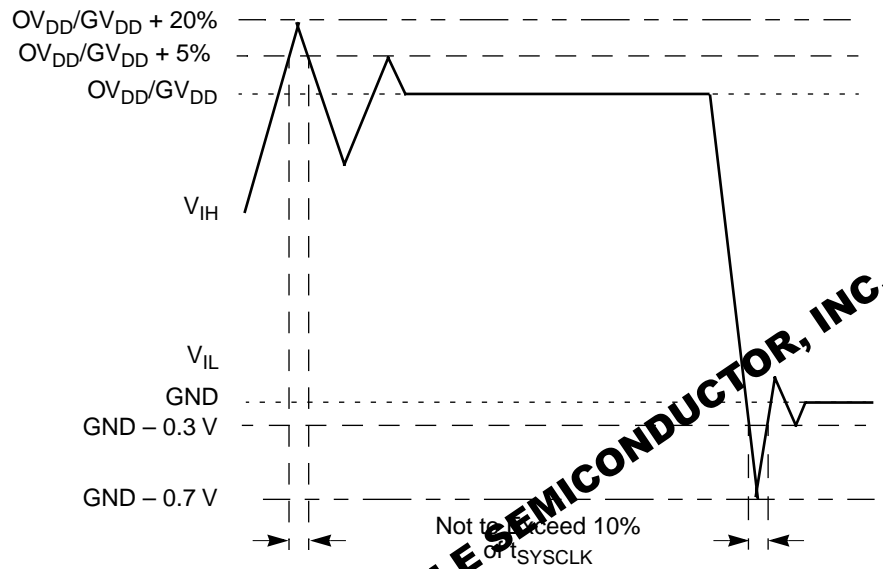

Figure 2. Overshoot/Undershoot Voltage
- V_{in} may overshoot/undershoot to a voltage and for a maximum duration as shown in Figure 2.
Figure 2 shows the undershoot and overshoot voltage on the MPC7450.